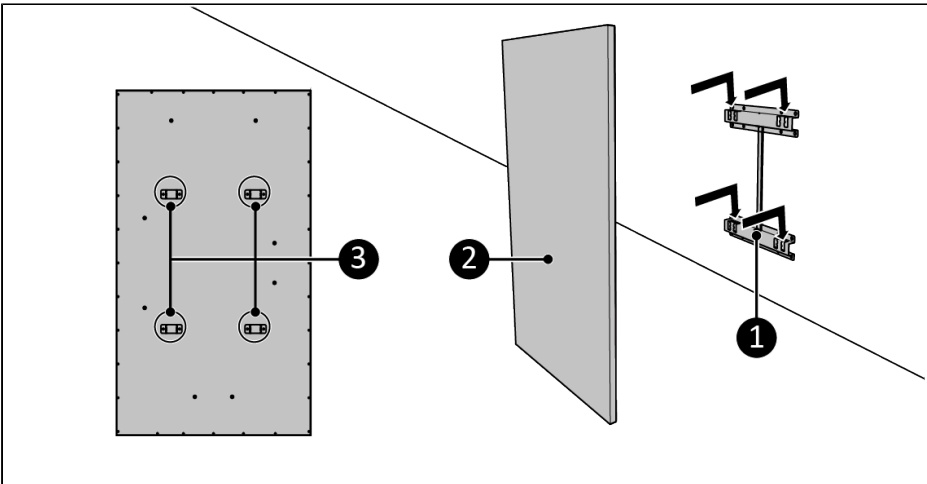

Figure 35.
5. Place the device brackets (Figure 35, pos. 3) over the wall bracket (Figure 35, pos. 1).
6. Slide the device (Figure 35, pos. 2) into the openings of the wall bracket (Figure 35, pos. 1).